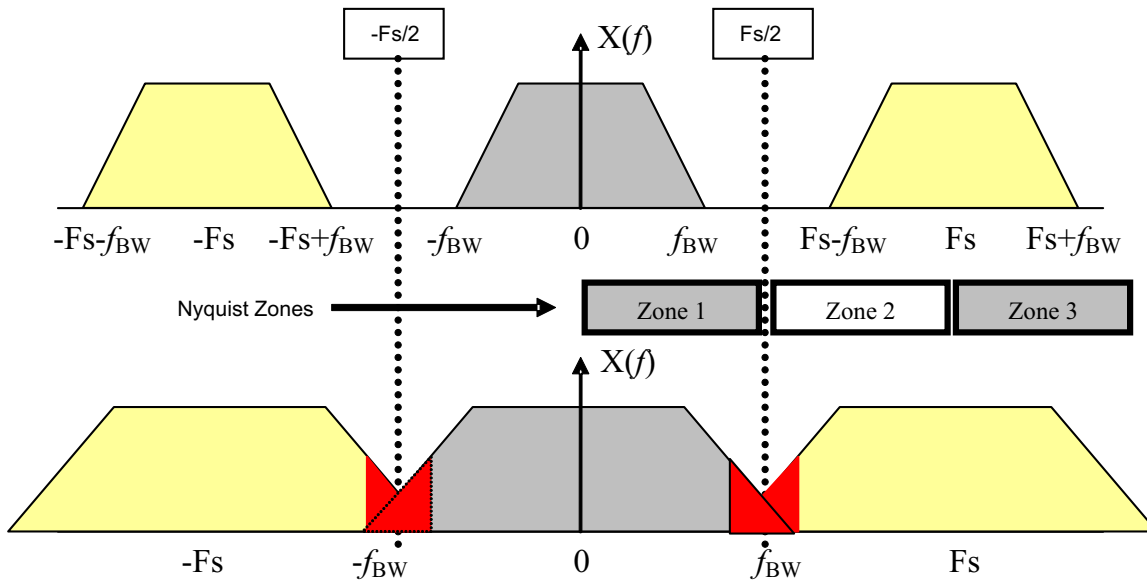

Figure 8. Hypothetical Spectrum (sampled at F_s)
The variable k in Equation 1 causes the Fourier transform output to output a copy of the signal $X(f)$ at every multiple of F_s . Equation 1's output is depicted visually in Figure 8 as copies of $X(f)$ are shifted by multiples of F_s . Figure 8 also provides a visual example of the Nyquist Frequency, $F_s/2$. Since these signals are repeated at multiples of F_s , then for bandwidths greater than $F_s/2$ information loss (red area) will occur. As shown in Figure 8 multiples of the Nyquist frequency determines the Nyquist Zones. In most literature, Nyquist Zones are only defined for the positive frequency spectrum.
2) In Figure 8, why do the F_{out} images decrease in amplitude?